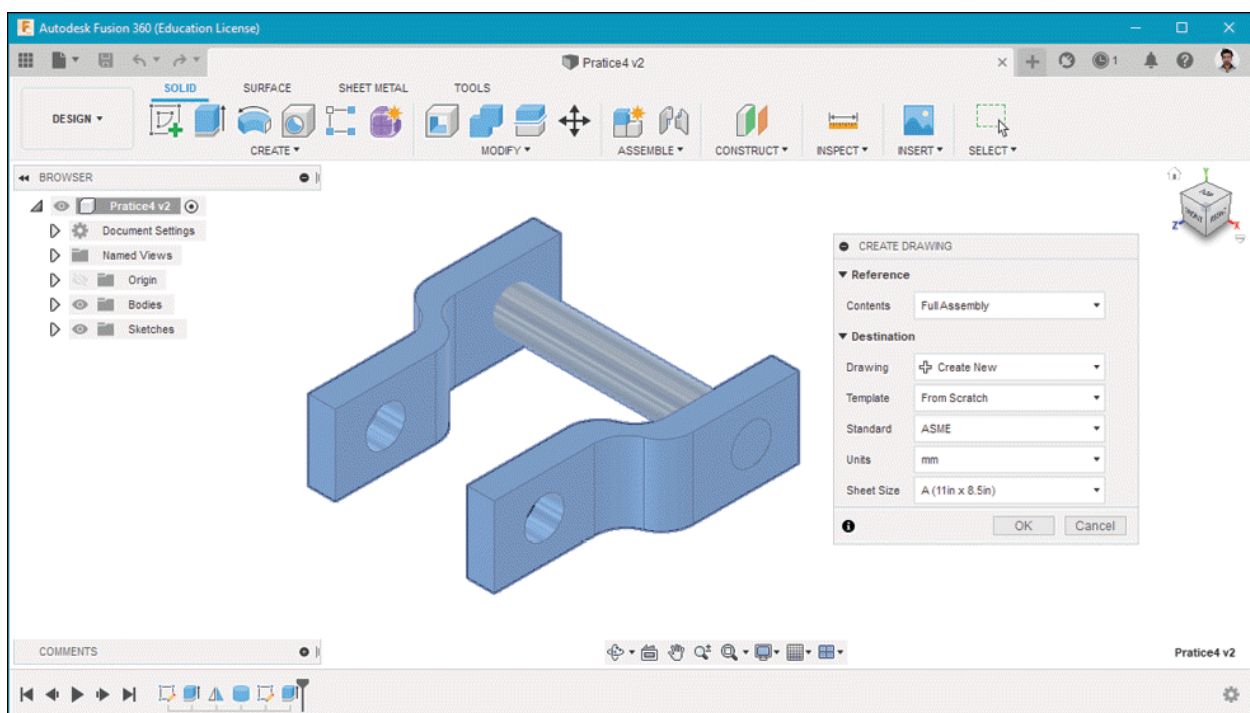

Figure-1. CREATE DRAWING dialog box
- Click on **From Design** option from **DRAWING** cascading menu in **Change Workspace** drop-down. The **CREATE DRAWING** dialog box will be displayed along with the model; refer to Figure-1.